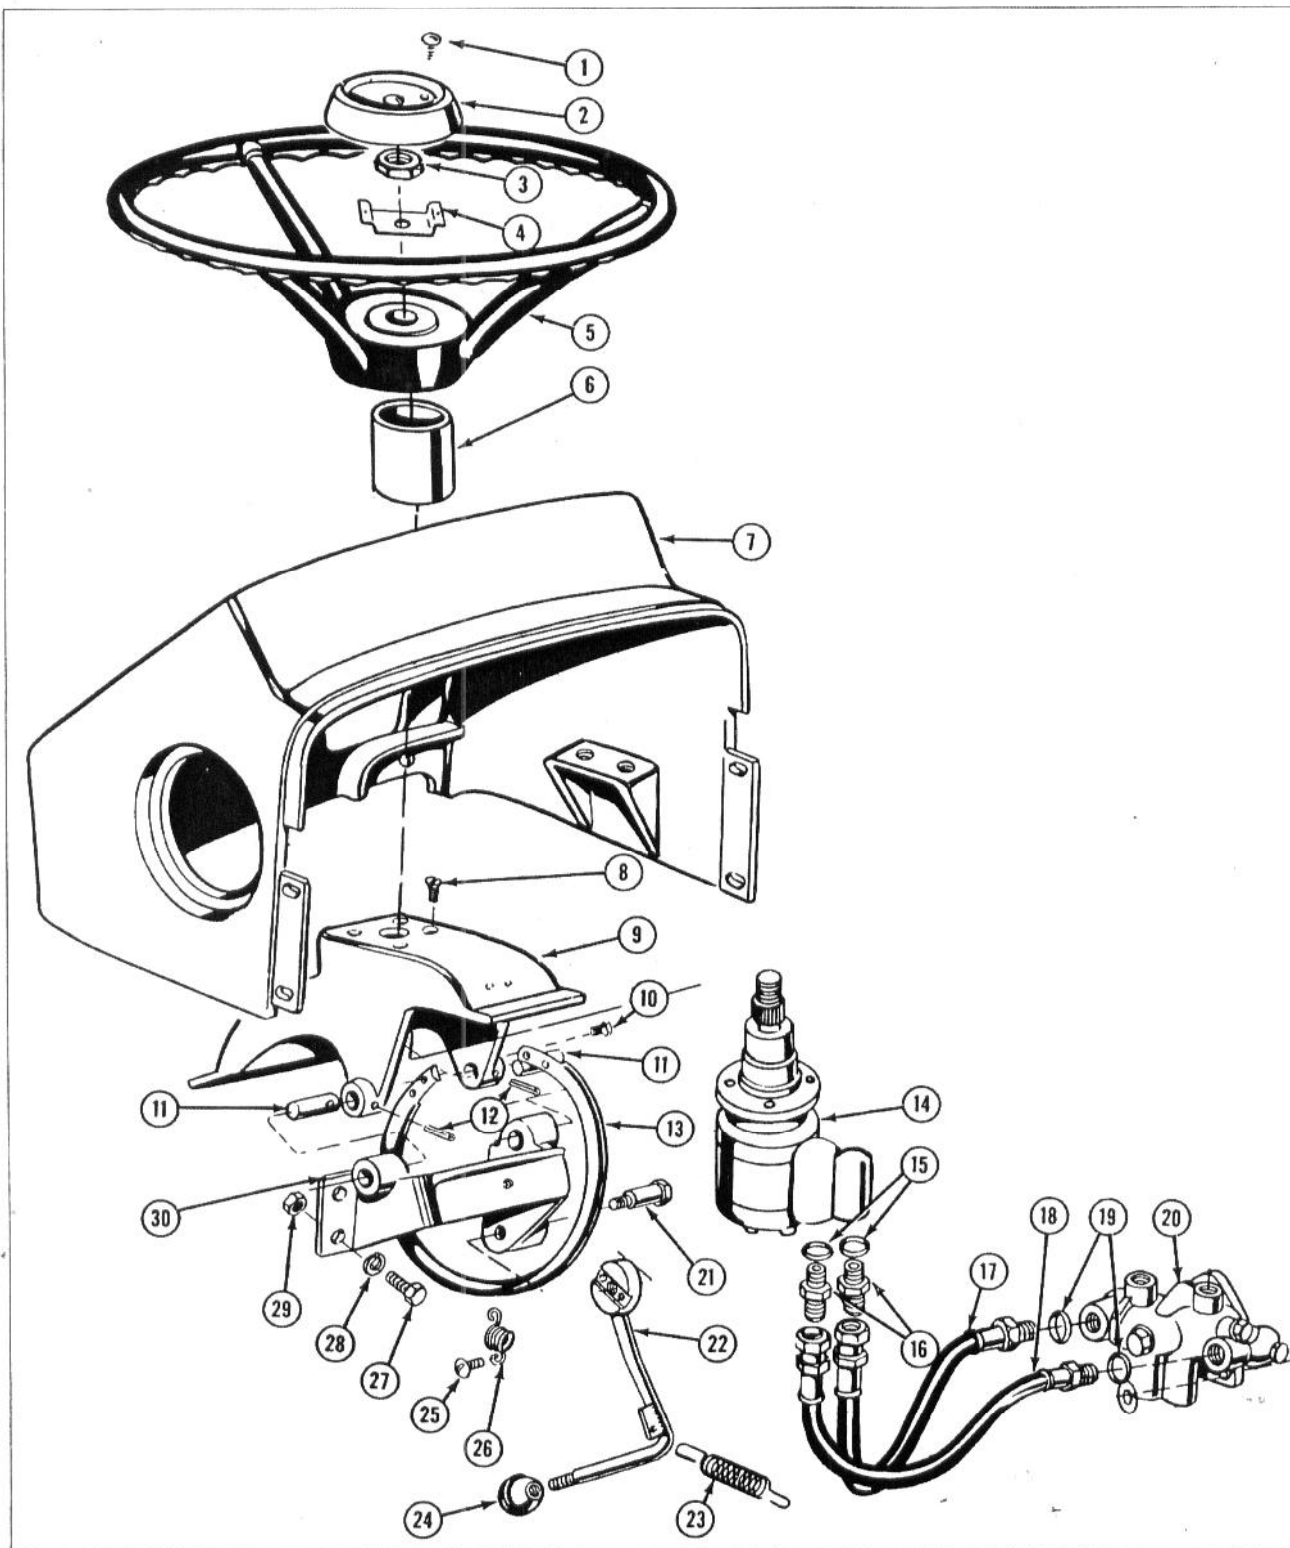

FIG. 9 — EXPLODED VIEW OF STEERING WHEEL AND PIVOT HOUSING
2. Refer to Fig. 9, and remove the steering wheel, No. 5, as follows:
1. Insert the hand pump through the opening, provided by the removal of the lower LH side panel, and place into position with the pump shaft through the pivot housing, No. 9, Fig. 9.
the front of the tractor and install the four attaching screws, No. 8, Fig. 9. Tighten the screws evenly to secure the pump to the pivot housing.
3. Install new "O"-rings, No. 19, Fig. 9, in the steering valve end ports and connect hose assemblies, Nos. 17 and 18, Fig. 9, to their respective ports. (Hose assembly, No. 18, connects to the valve port toward the front of the tractor and hose assembly, No. 17, connects to the valve port toward the rear of the tractor.)
a. Slide collar, No. 6, Fig. 9, over the protruding end of pump shaft.
3. Remove the hose assemblies, Nos. 17 and 18, Fig. 9, connectors, No. 16, Fig. 9, and "O"-rings, No. 15, Fig. 9, from the pump ports.